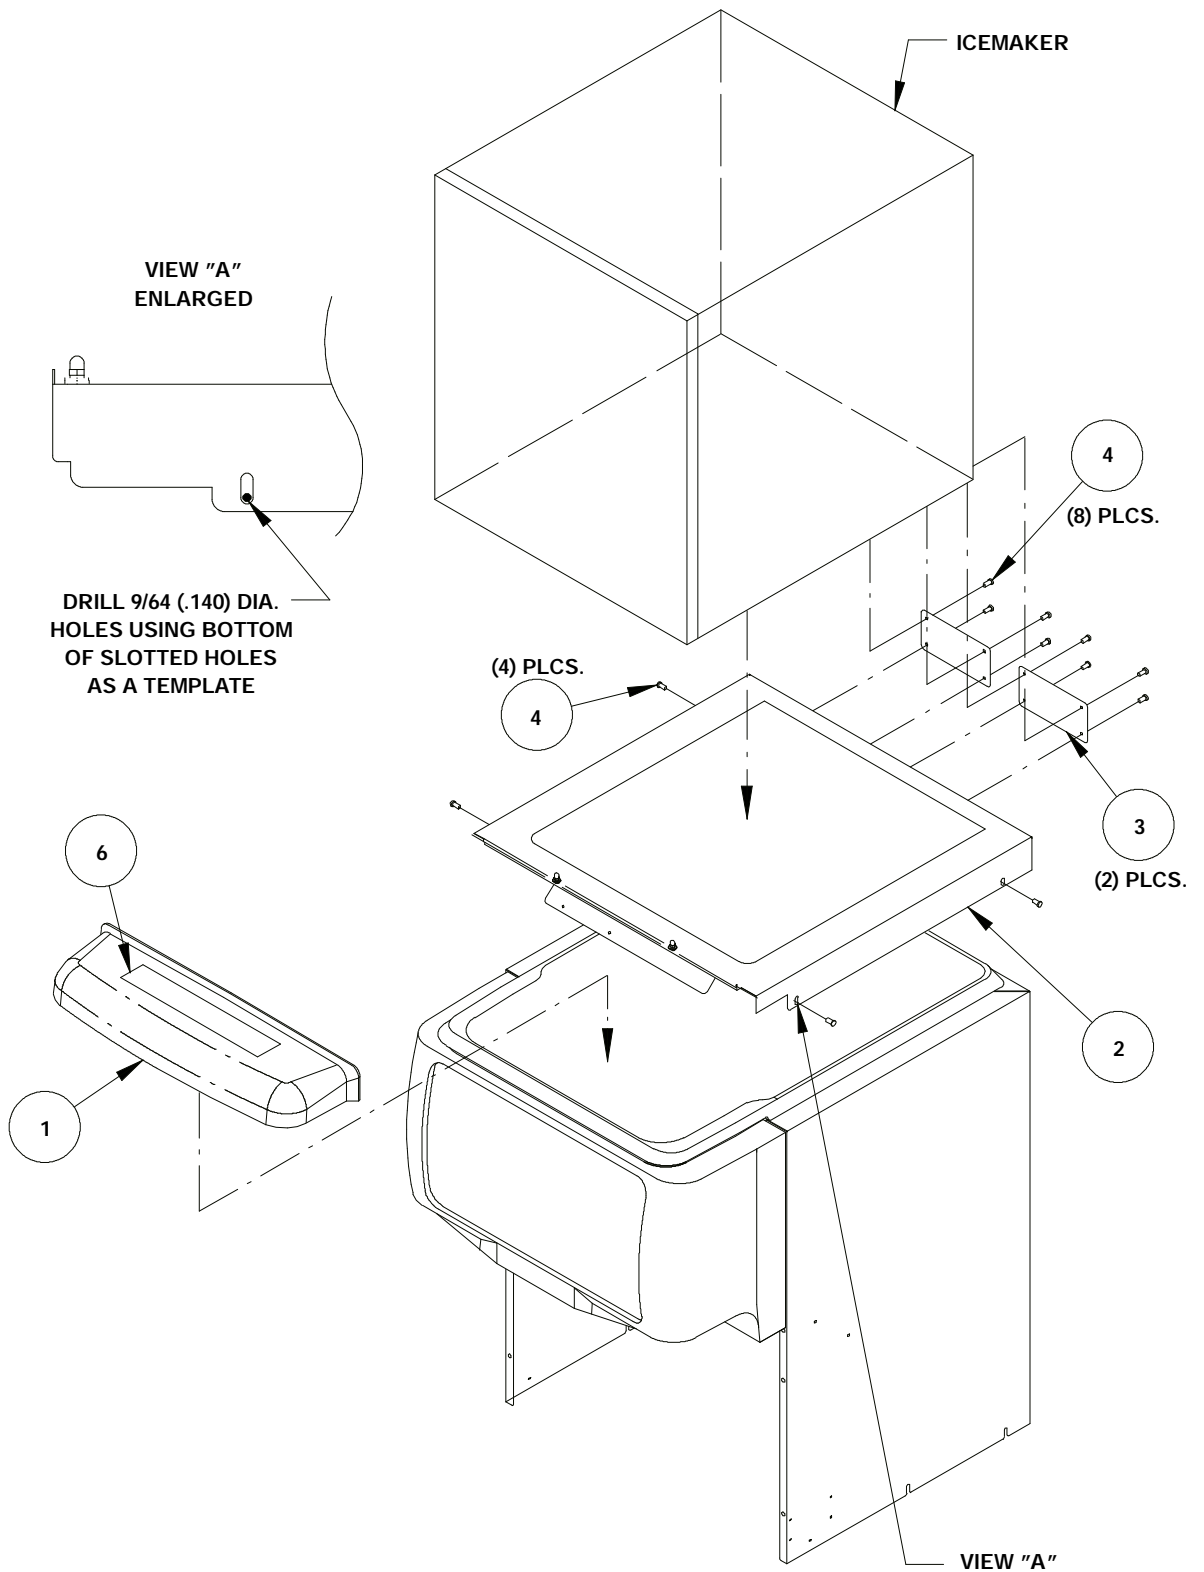
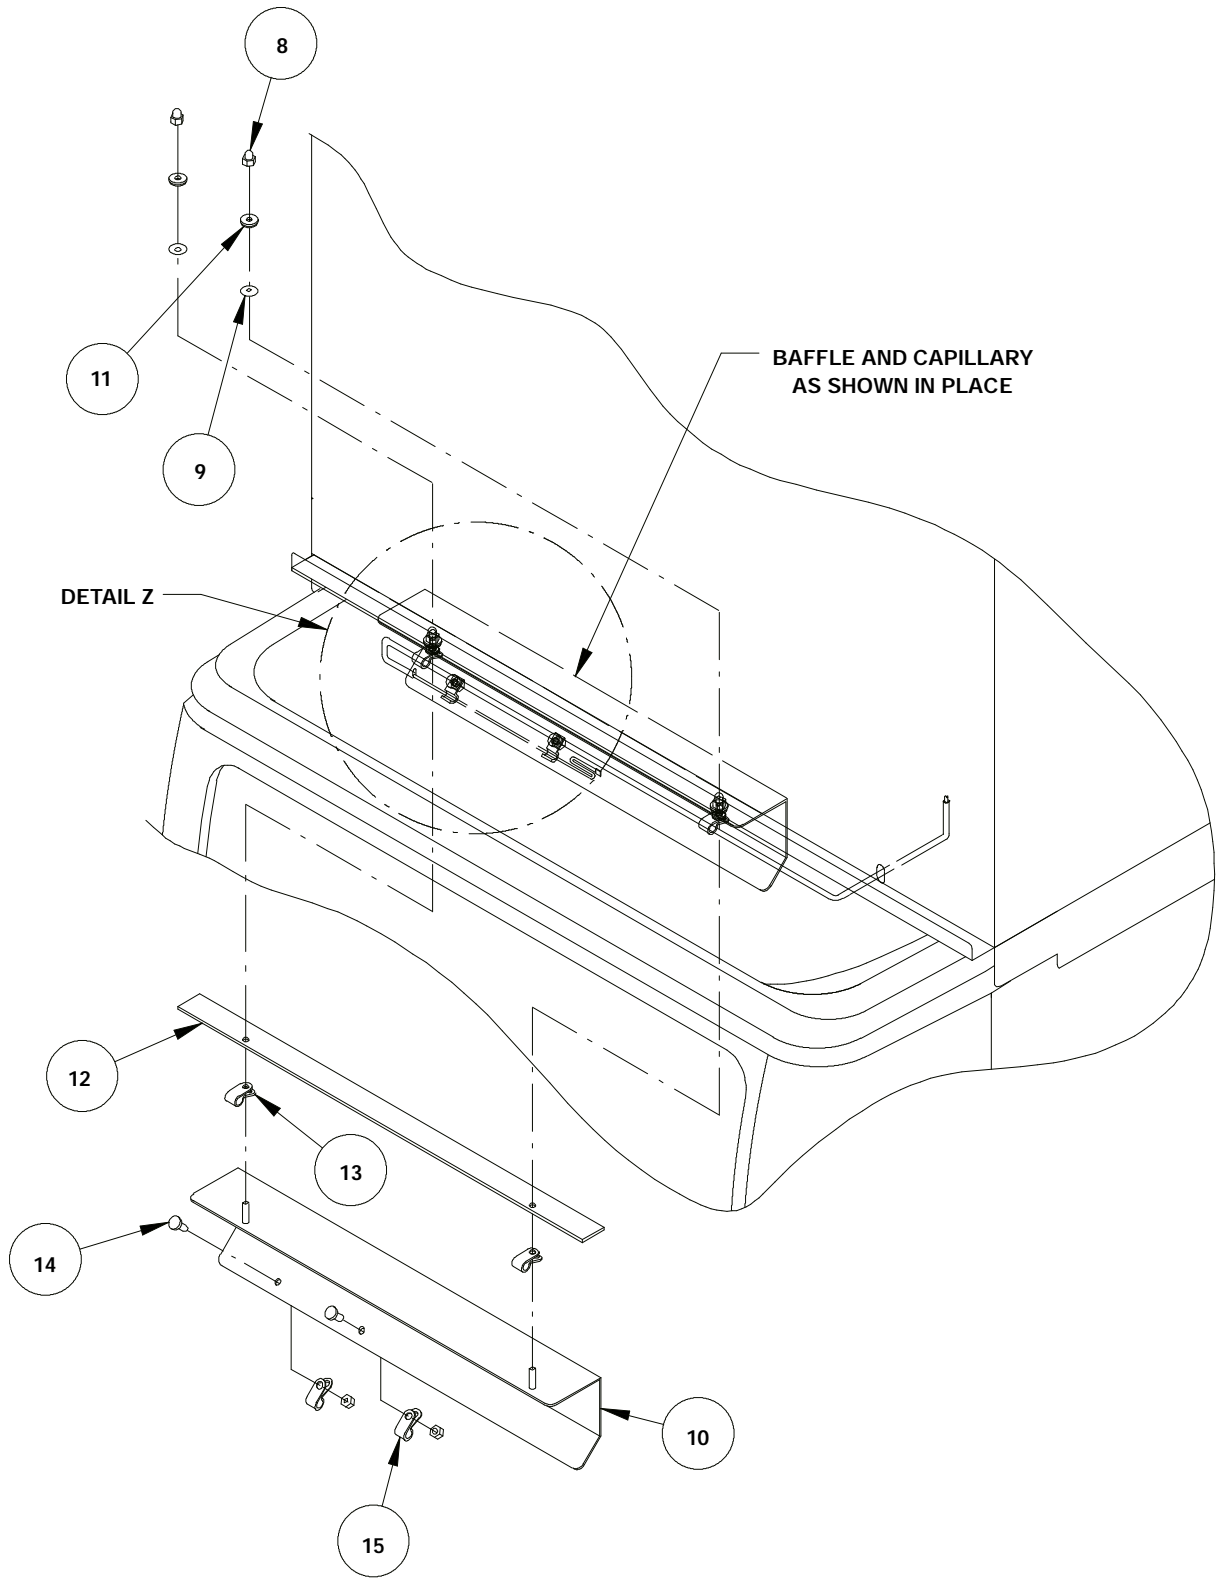

FIGURE 1. DISPENSER ASSEMBLY
FIGURE 2. BAFFLE
3. Place two (2) sealing cap washers (item 9) over studs and two (2) NYLON WASHERS (item11), then fasten in place with two (2) ACORN NUTS (item 8).
5. Using the slotted holes in the lid as a template, drill four (4) .140-in. diameter (9/64-in.) holes at the bottom of the slots (see detail A of Figure 1). Use extreme care not to drill into the hopper. Fasten the lid to the dispenser with four (4) #8 sheet metal screws, two on each side.
8. Mount BIN STAT KIT (item 17) as instructed except for the bin stat capillary tube mounting.
9. Pull 32-inches of capillary tube out of bottom of the ice maker. Slit and place VINYL TUBING (item 16) over the capillary tube leaving 6-inches of bare capillary tube exposed between capillary "S" bend and vinyl tubing.
10. Assemble two (2) NYLON CLAMPS (item 15) to the back side of the ICE BAFFLE (item 10) with two (2) SCREWS (item 14) and ACORN NUTS (item 8). *Do not overtighten.*
11. Route capillary tube around baffle as shown in Figure 2 and Figure 3.
12. Position two (2) NYLON CLAMPS (item 15) on studs of ICE BAFFLE (item 10) and two (2) NYLON WASHERS (item 11) on studs as shown.
14. Place two (2) SEALING WASHERS (item 9) over studs and fasten in place with four (2) ACORN NUTS (item 8).
15. Route and form capillary as shown in Figure 2 and Figure 3. Tighten two (2) plastic clamps (8-32 X 3/8-in. screws) to hold capillary tube in place.